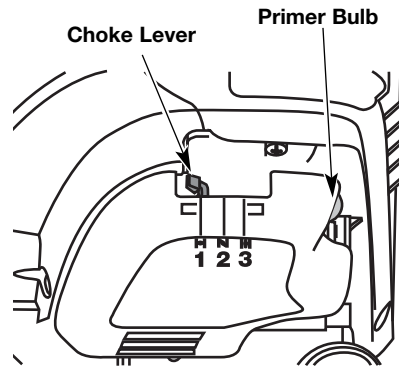

Fig. 7
3. Fully press and release the primer bulb 10 times, slowly. Some amount of **fuel should be visible in the primer bulb and fuel lines** (Fig. 7). If you can't see fuel in the bulb, press and release the bulb as many times as it takes before you can see fuel in it.
4. Place the choke lever in **Position 1** (Fig. 7).
6. Place the choke lever in **Position 2** (Fig. 7).
9. Place the choke lever in **Position 3** (Fig. 7). The unit is ready for use.